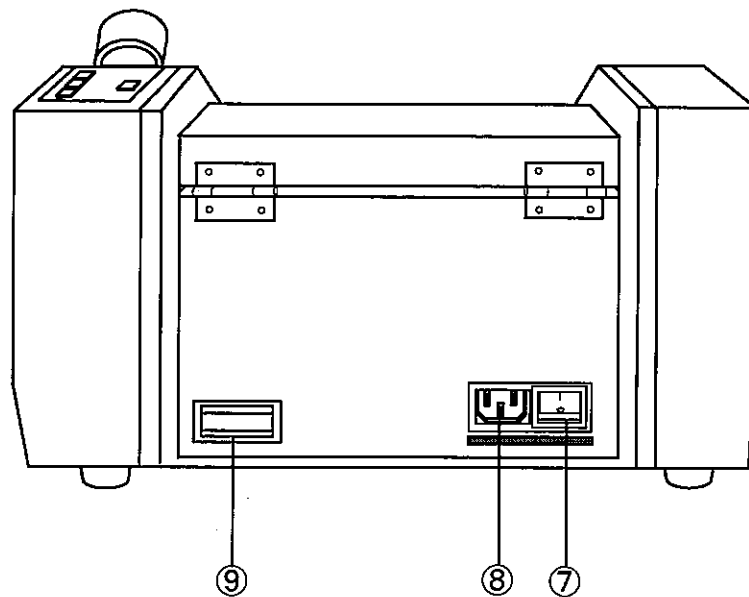

Fig. 3-2
(2) Rear side (Figure 3-2)
- ⑦ Power switch: